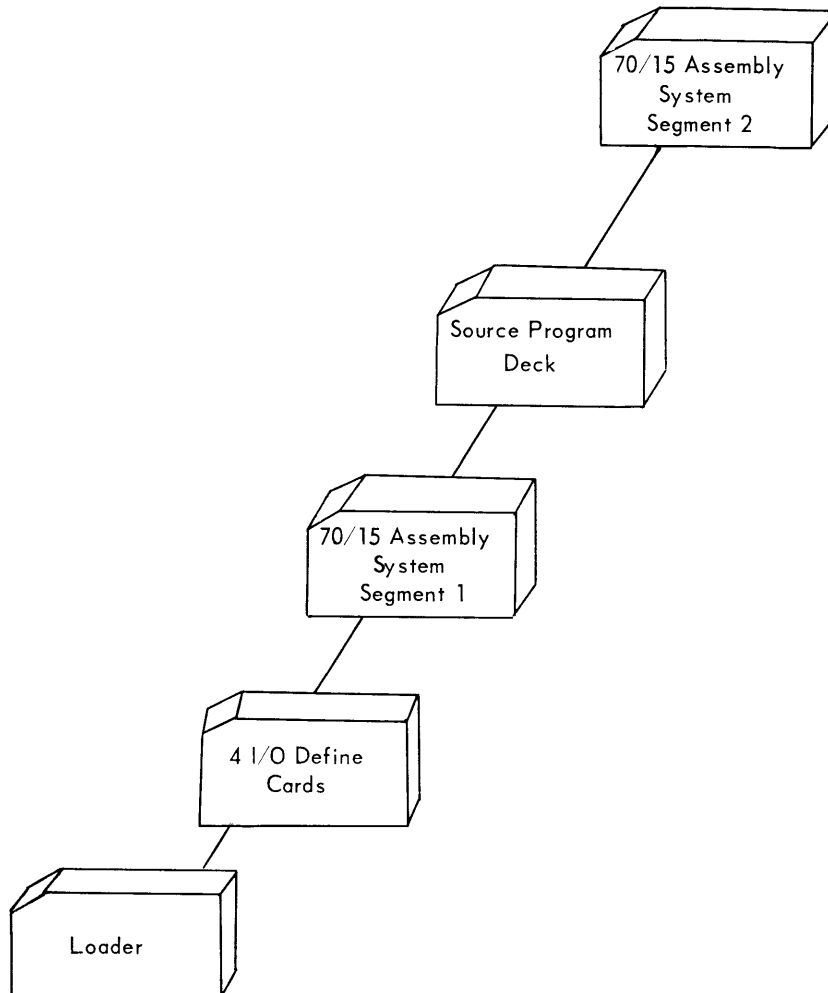

Figure 5. Composed Deck for Card Systems
- ◆ 1. Compose the deck illustrated in Figure 5. If the proper loader is already in memory, start the deck with the four I/O Define cards.